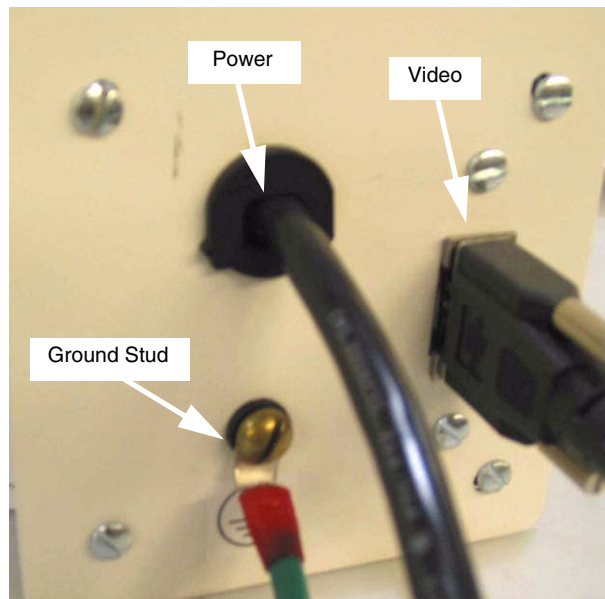

Figure 2-29 Ceiling Face Plate - HP System - Front View (Octane not shown)
- b.) Place the connector tabs onto the face plate in the location for the video cabling. Firmly slide them into place so that the slot in each tab fits over the plate and their holes line up with the holes in the face plate. (See Figure 2-29.)
- 3.) Connect the video, power, and ground cables from the room monitor to the ceiling face plate, as shown in Figure 2-29.